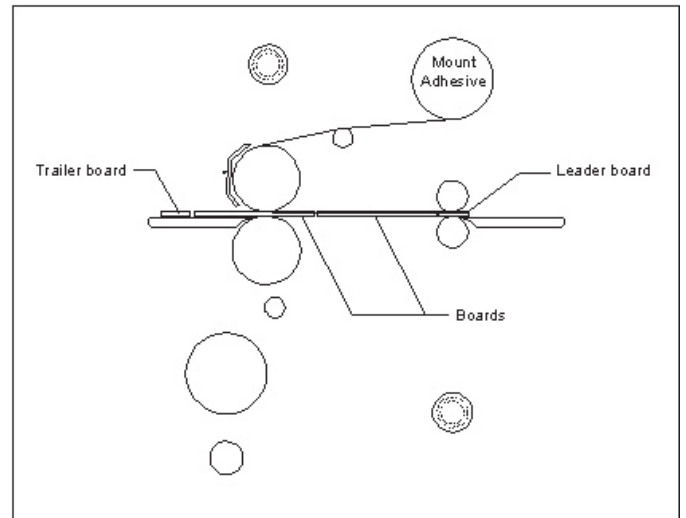

Fig 34
Tips For Pre Coating Boards (Figure 34)
1. Load the laminator as illustrated in Figure 34. Remove chill idler.